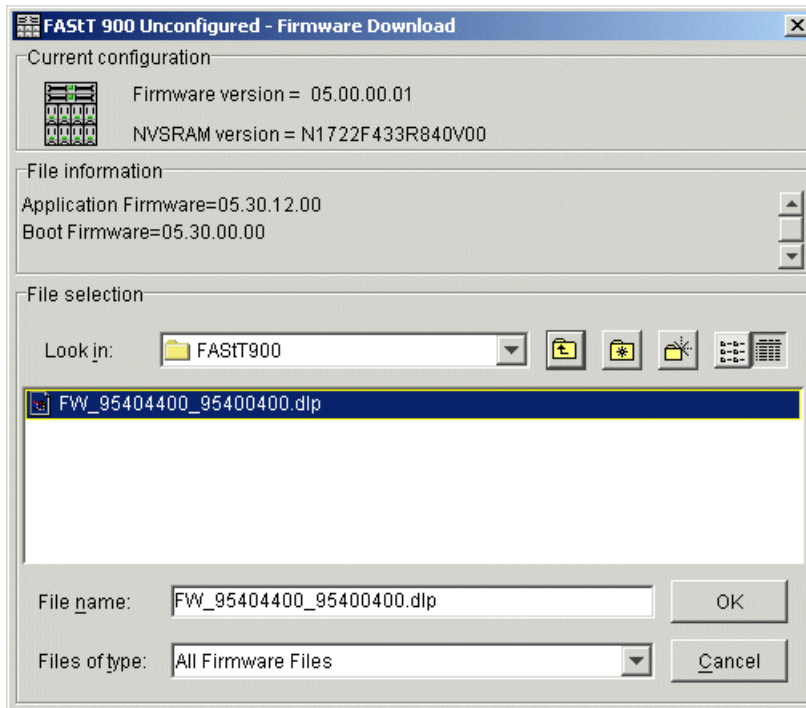
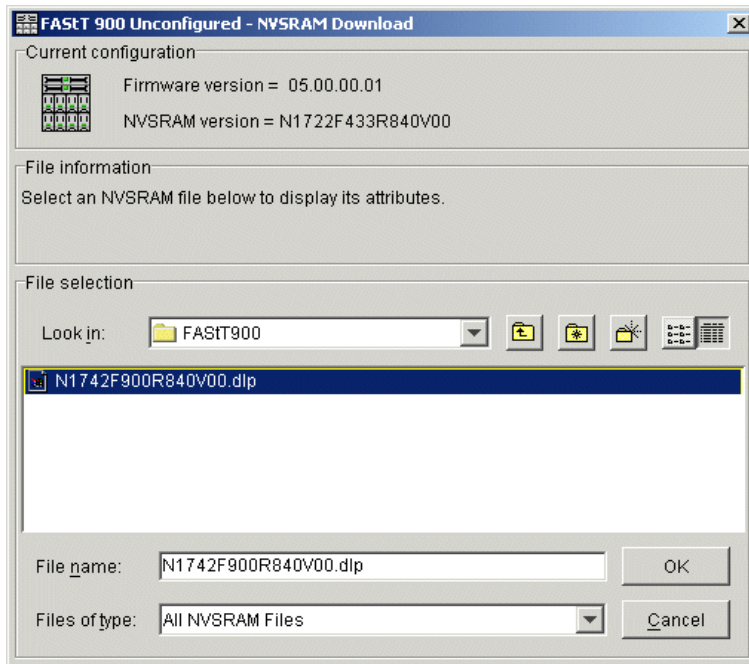

Figure 11-2 Firmware Download window
Figure 11-8 NVSRAM Download window
- b. You are prompted for the file location where the new firmware you want to download is stored. In the first part of the window, you can see the actual versions of the firmware and NVSRAM installed on the controllers. The second part tells you which firmware revision is included in the file you have chosen, as shown in Figure 11-2.
- b. As for the firmware download, choose the correct file you want to download to the controllers (Figure 11-8). The window has the same structure as the Firmware Download dialog (Figure 11-2 on page 336). Therefore, you see the new firmware revision and the NVSRAM revision installed on the storage subsystem.